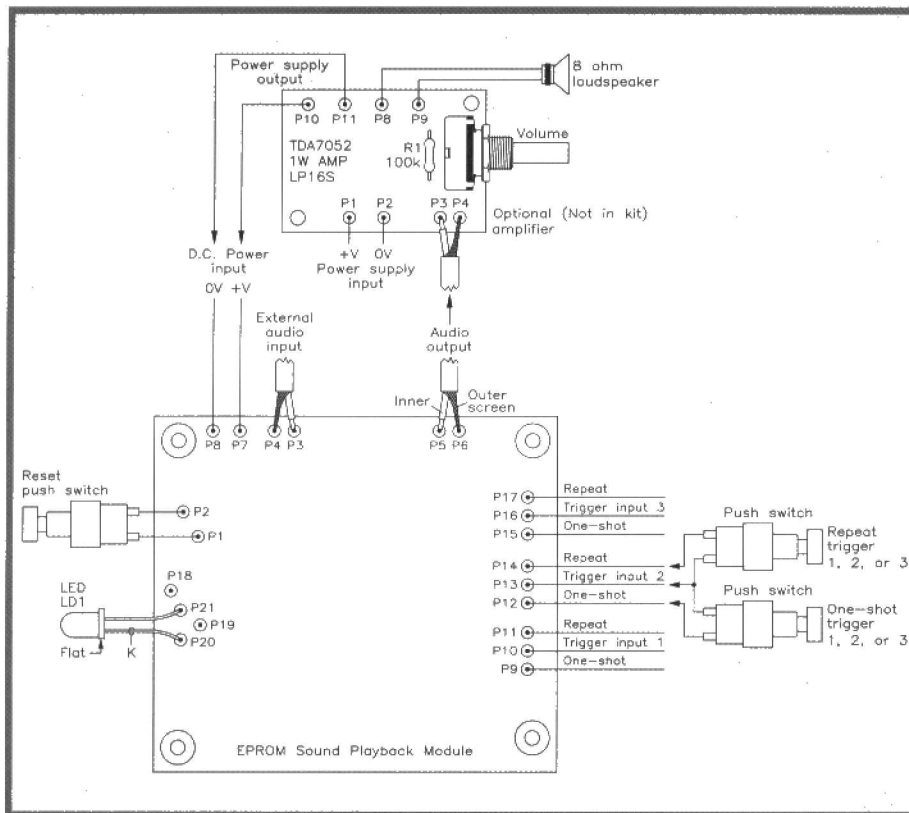

Figure 5. Wiring diagram showing connections to PSU, amplifier, and switches.
In the following test, it will be assumed that the power supply used is the YB23A regulated AC-DC adaptor, set to its +12V output. Select a suitable range on your meter that will accommodate a 300mA DC current reading, and place it in line with the positive power output of the adaptor to P7. Connect the negative power line to P8, as shown in Figure 5, and solder the indicator LED (LD1) temporarily to pins P20 and P21 – its final location could be elsewhere in your completed system, mounted on your control console, for example. The LED has a long anode lead and a shorter cathode (K) lead; this is also denoted by a flat along one side of its package.